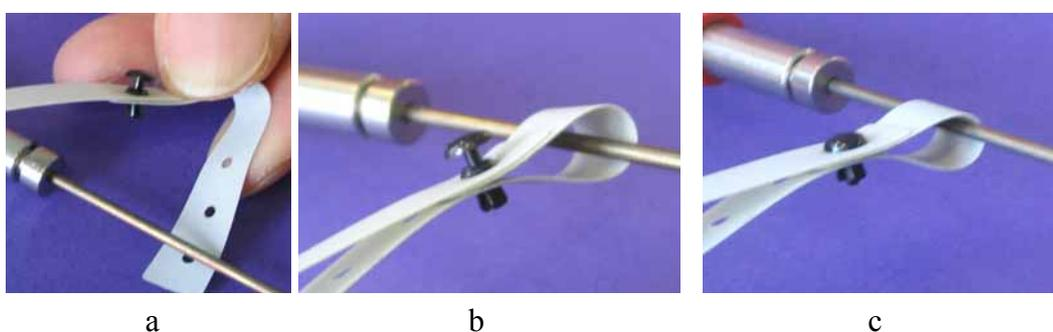

Fig. 39: Clipping the column ID chip card onto a column
1. Clip the column-ID chip card (part no. 6710.1505 = 5 chip cards) onto the column. (To do so, open the expanding rivet by removing the rivet head from the body.) Open the expanding rivet by pulling the rivet head partly out of the body (→ Fig. 39 a), clip the chip card onto the column as shown in Fig. 39 b, and push the rivet head back into the body (→ Fig. 39 c).